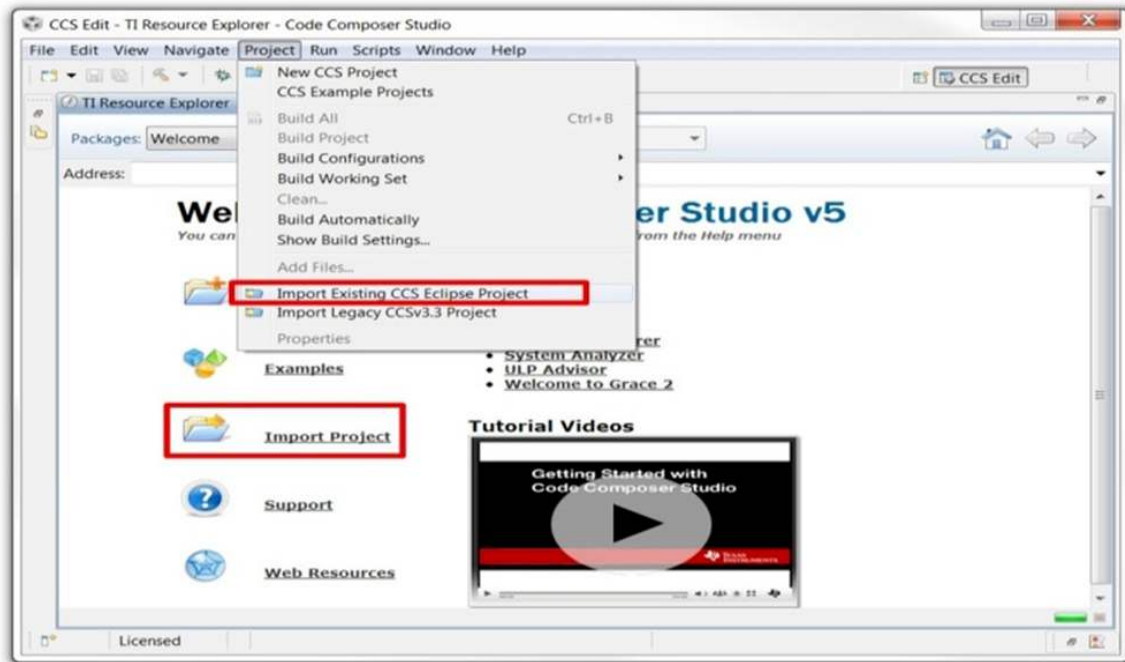

Figure 20. Importing CSS Project
Step 4. Import a project either from the welcome menu by selecting *Import Project* or go to the *Project* menu and select *Import Existing CCS Eclipse Project* (see Figure 20).